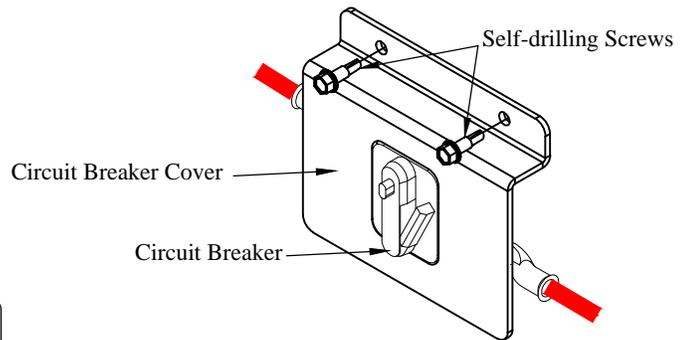

Figure 19: Circuit breaker cover.
15. Attach the circuit breaker cover using the supplied self-drilling screws (Figure 19).